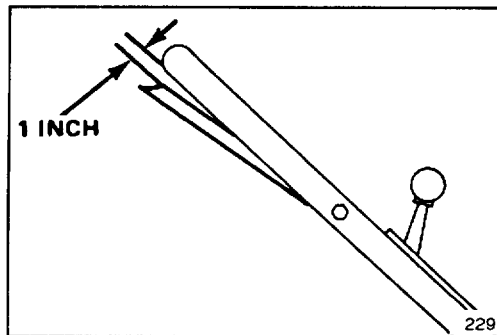

Figure 14
2. CHECK ADJUSTMENT—Slowly pull mower backward while control bar is gradually moved toward handle. Adjustment is correct when rear wheels stop turning and control bar is about 1-inch from handle (Fig. 14).